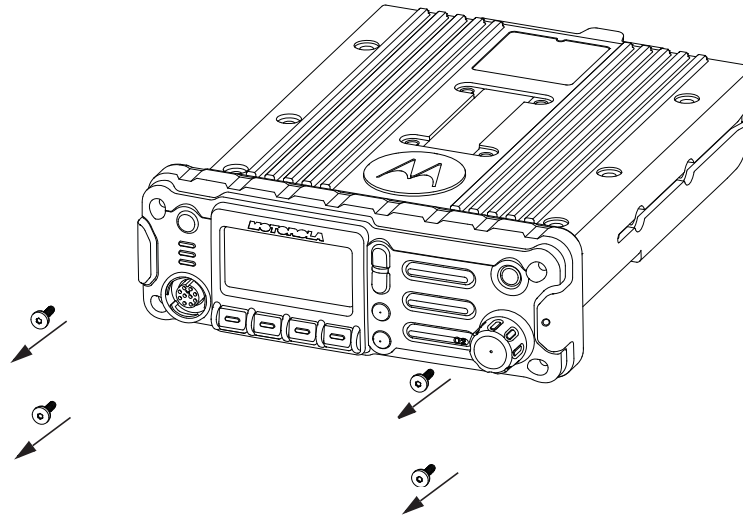

Figure 2-57. Removing the screws on the Control Head
2. Remove the four screws found on the control head with a Torx T-20 bit as shown in Figure 2-57. Discard the screws.